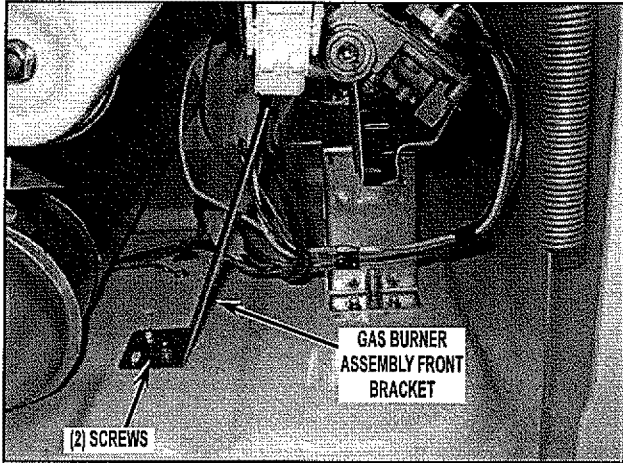

FIGURE 4
- For gas dryer applications only, remove two (2) screws from gas burner assembly front bracket (Figure 4) and remove the bracket from the dryer to allow more access.
- For gas dryer applications only, reattach the gas burner assembly front bracket and two (2) screws. See *Figure 4*.